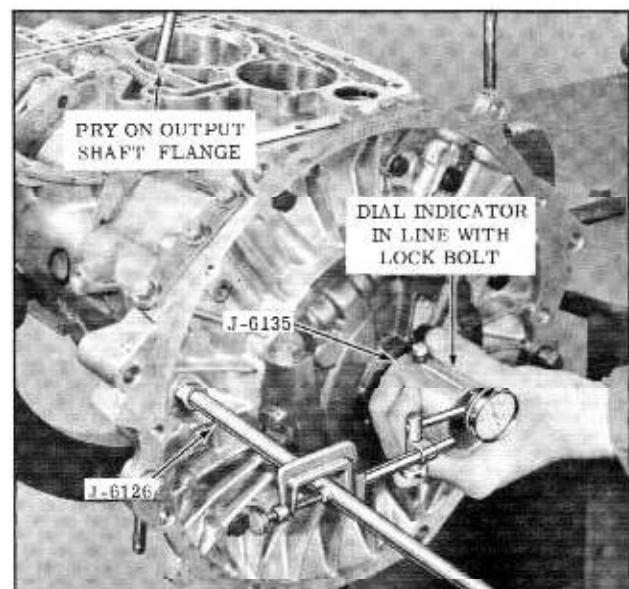

Figure 3-32 Checking End Play
2. Install Tool J-6126 into transmission case. (Fig. 3-32)
6. At the same time move Tool J-6135 and record end play. (Fig. 3-32)